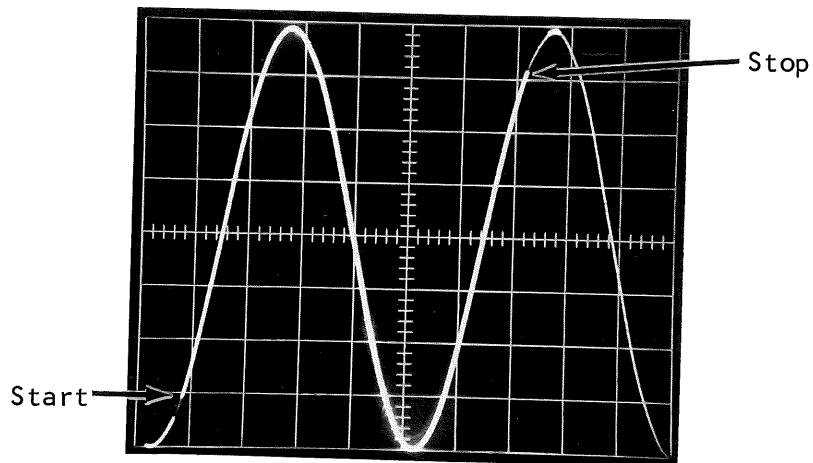

Figure 7-5
4. Set START to FIRST + SLOPE and check for proper display. See Figure 7-5.